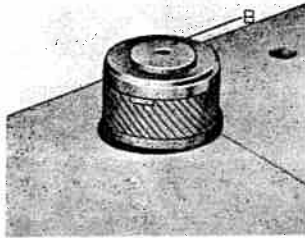
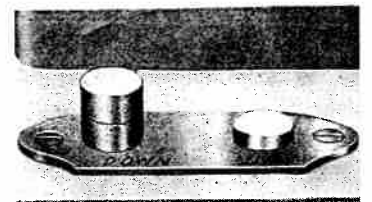
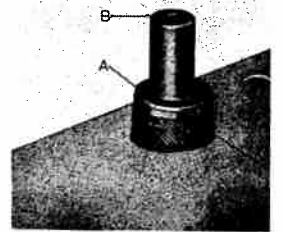

Fig. 19
Fig. 18
Fig. 20
**GENERAL SEWING.** Usually for straight sewing and various embroidery work, the pressure bar cap or darning release Fig. 19 is at its lowest position and the feed at its highest level - with the drop feed button marked UP pressed all the way down. Fig. 18.
When lighter pressure is required to sew satisfactorily on thin silk or flimsy material, the pressure cap should be about halfway down. Release all the way by pressing the snap lock, A, Fig. 20, and then press cap B down again to half-way spot. Lower the feed slightly by pressing the down button (Fig. 18) to the red line.
In order to move the fabric freely in any direction for darning and mending, release the pressure cap B completely by pressing down on the snap lock, A, Fig. 20. Press down button (Fig. 18) all the way down, which drops the feed well below the needle plate. To return feed to normal, press the up button all the way down.